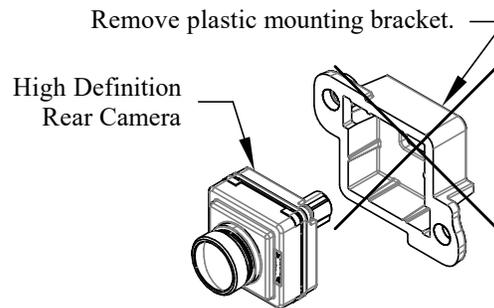

Figure 3: High definition rear camera.
- **High Definition Rear Camera (UVB)** shows a straight bumper on the screen when backing up, and may have options to select advanced trailering views, including the curved bumper view. It looks like the camera shown in Figure 3.
- Remove the high definition rear camera from the plastic mounting bracket (Figure 3).